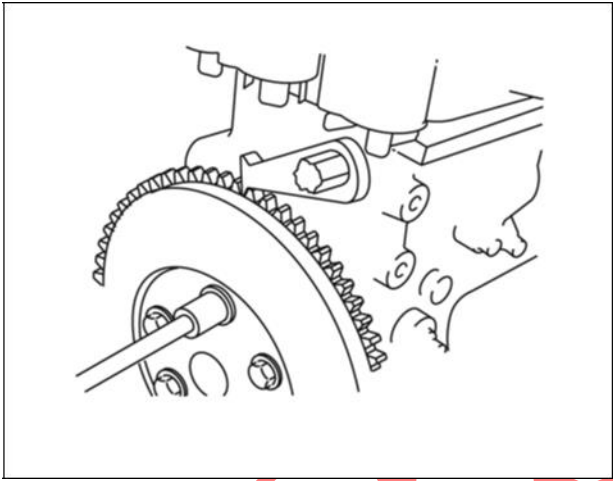

Figure 7
2. Install flywheel (Figure 7).